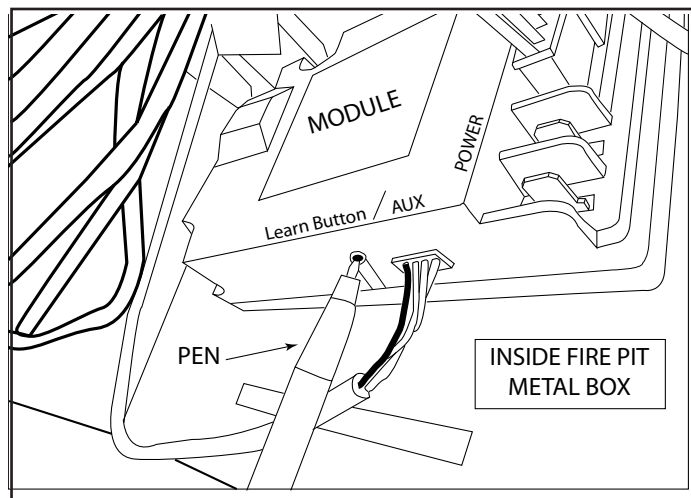

Fig.25 Learn button location
3. Once the Learn button is located, press and release the button once. You will hear a beep indicating that the module is ready to receive a transmitter code (See fig. 25)
**NOTE:** A maximum of three (3) codes can be programmed to the module. After a total of three (3) codes have been programmed the memory is full and will not accept any additional codes. To clear all codes, press and hold the learn button for 10 seconds. The module will beep three (3) times indicating the memory is clear of all codes. After codes have been cleared see to Step #3 above to re-learn transmitter.